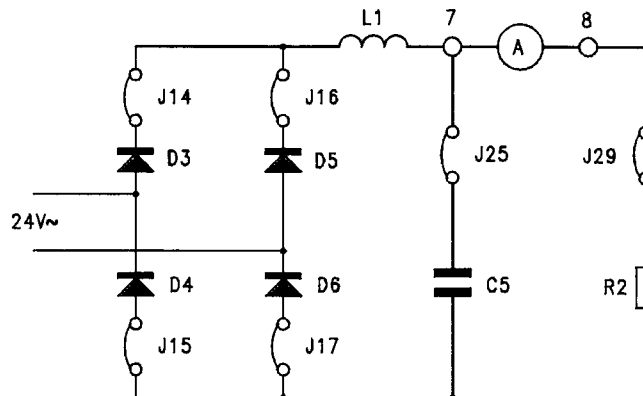

fig. B05.12
- disconnect J24 to create an L C filter as in figure B05.12